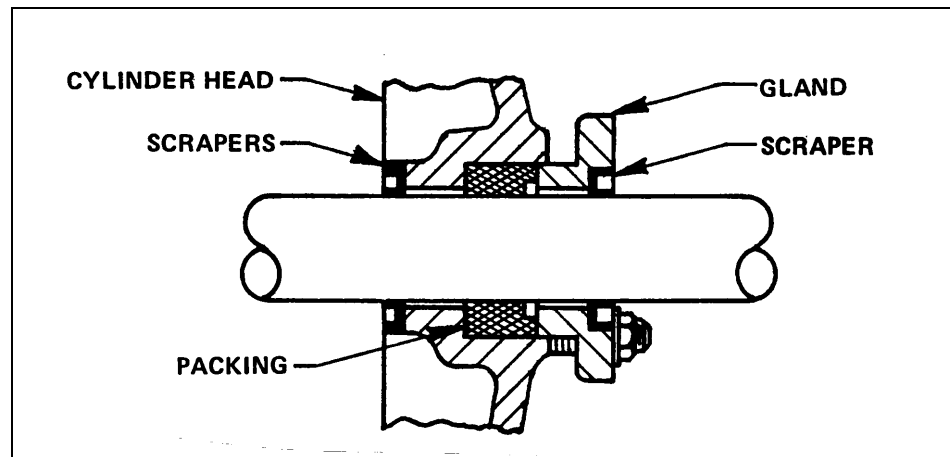

Figure 1 – Scraper Locations
9. Remove the two scrapers. One scraper is found in the cylinder head, the other is in the gland. Figure 1 shows their location.